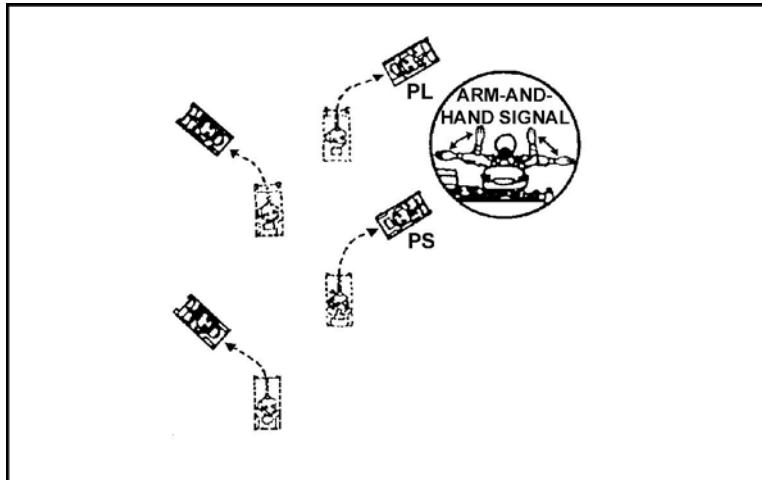

Figure 5. Herringbone.
- a. When traveling in a column formation, select the herringbone formation to disperse the platoon (Figure 5). Direct this formation during an air attack or when the platoon must stop during movement. Direct the BFVs to be repositioned, as necessary, to take advantage of the best cover, concealment, and fields of fire as time permits. Direct fire teams to establish security during limited visibility or when the halt is more than temporary. Normally, this formation is executed without a radio command.